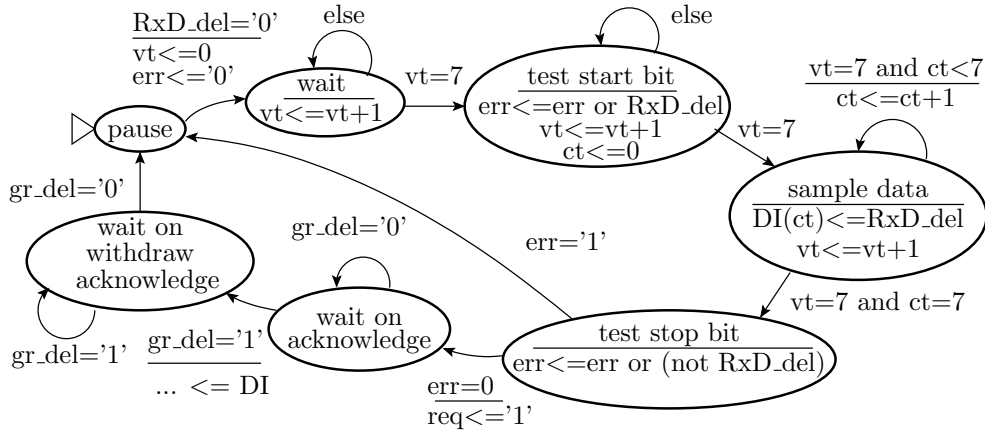

Figure 3: State graph of the receiver with handshake
Send- and handshake sequence have to merged to one state graph, whereby only the sampled request signal should be processed (figure 3).
The transfer of the received data to the following circuit generally is done via a handshake protocol (figure 3):
1. Reconstruct the state graph of the receiver from the file a3\_rs232.vhd and draw it on paper. Compare the so found graph with figure 3.